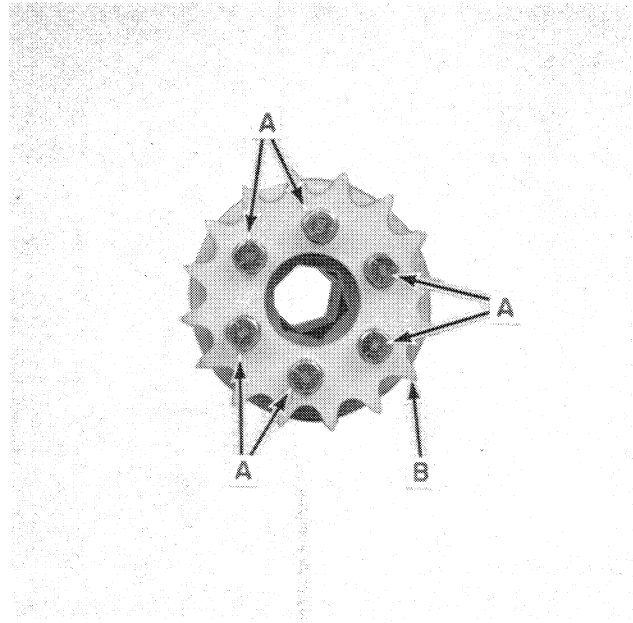

Figure 2-14
To change slip clutch sprockets, B, Figure 2-14, remove the bolts securing the sprocket and cut the sprocket off. Use a saw and cut the new sprocket in two, then bolt it on to the slip clutch. This will prevent removing the hex shaft.
2. Remove sprocket, B, Figure 2-14, by removing the six 5/16" bolts, A.